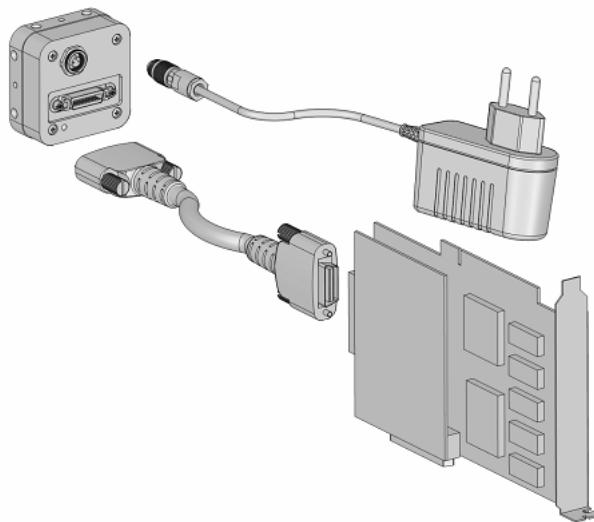

Figure 2.2: Camera with frame grabber, power supply and cable.
5. Connect the camera to the frame grabber with a suitable CameraLink® cable (see Fig. 2.2). CameraLink® cables can be purchased from Photonfocus directly (www.photonfocus.com). Please note that Photonfocus provides appropriate solutions for your advanced vision applications.
7. Connect the power supply to the camera (see Fig. 2.2).